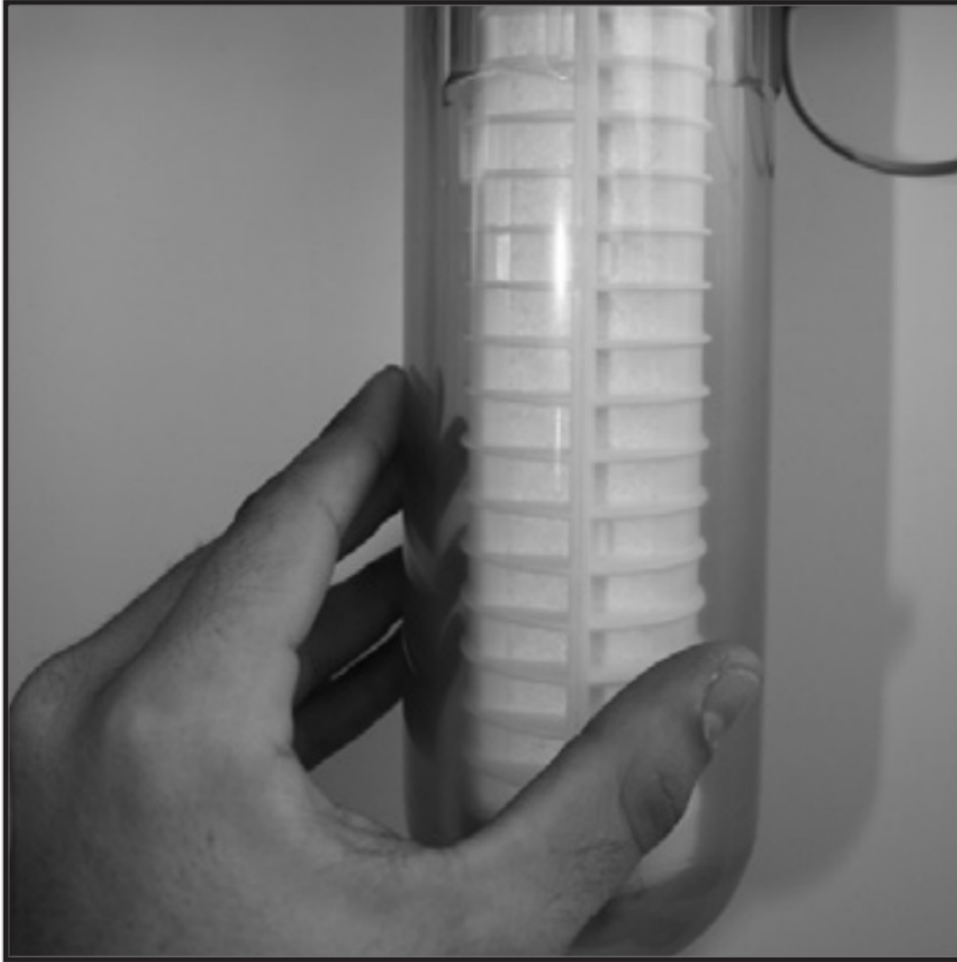

Fig. 15
- IV. Unscrew the transparent cylinder then manually (see Fig. 15).